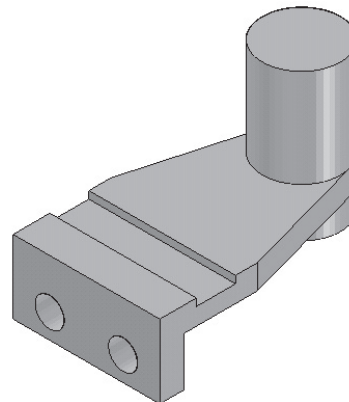

Figure 4-63 Model after creating the cutout
- d. Create two holes on the left face of the base feature using the **Cutout** tool, as shown in Figure 4-63.
5. Move the cursor to the right of the model and left click to specify the direction of the cutout feature. The model, after creating the cutout feature, is shown in Figure 4-63.